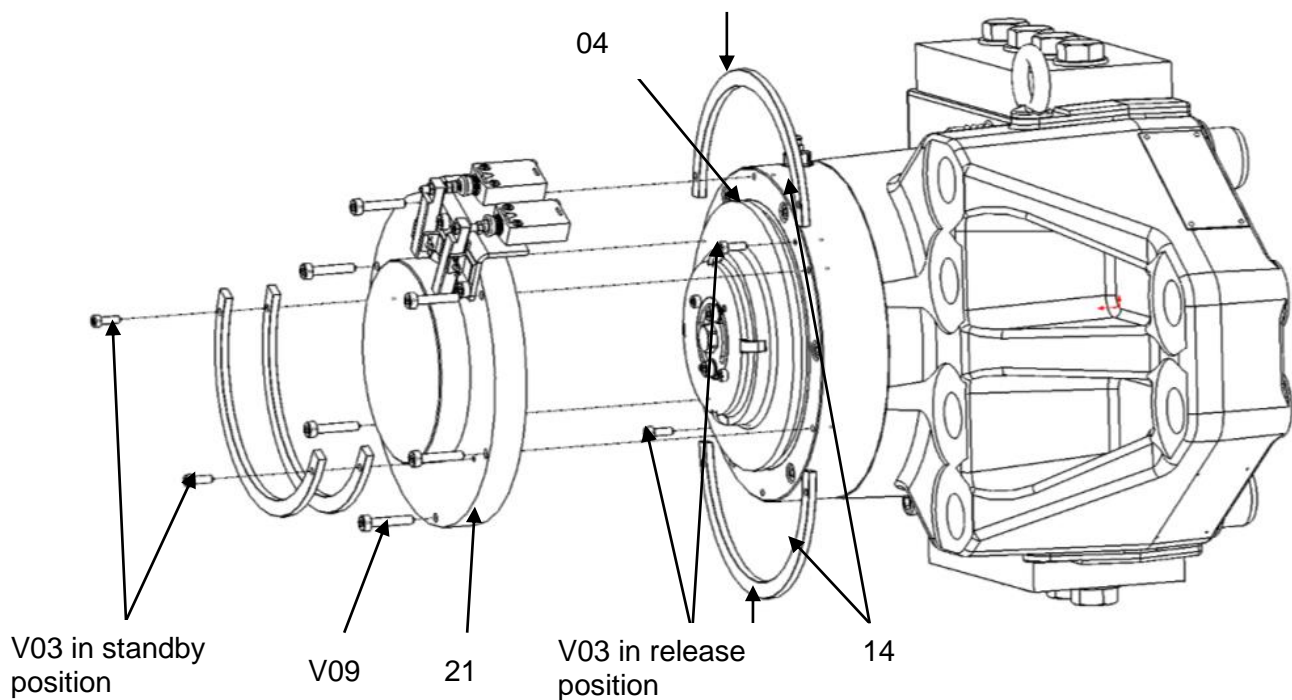
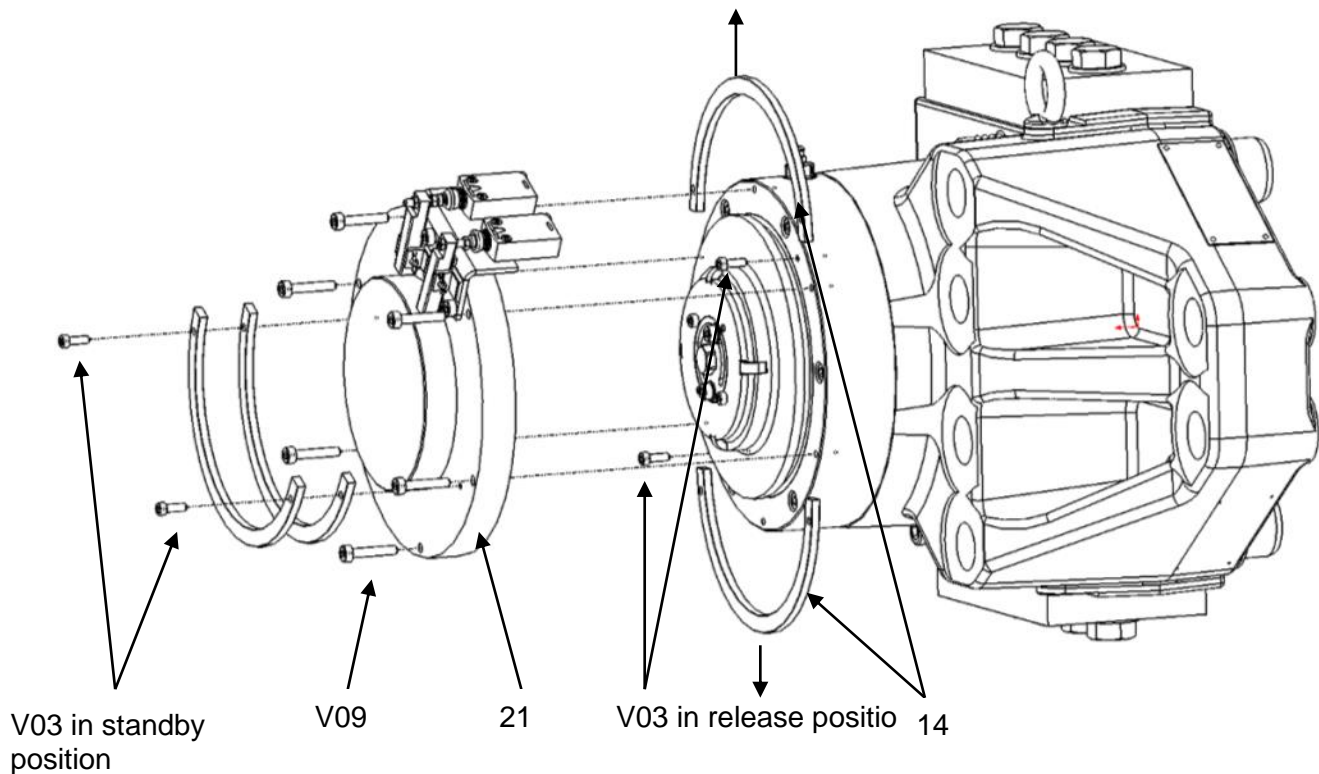

Fig. 5.2
Fig. 5.3
5. Put the 2 retaining segments **14** in the piston groove **04** Fig. 5.2.
4. Remove the 2 retaining segments **14** Fig. 5.2 and install them in the standby position on the cover **21**, one on the other, using the 2 screws **V03**. See Fig.5.3.
5. Reinstall cover **21** and retighten 6 screws **V09** Fig.5.2 chapter 5.1.
2. Remove the cover **21** by its 6 screws **V09** Fig.5.2.
8. Replace the cover **21** Fig.5.2 with the 6 screws **V09** and the connectors of switches.